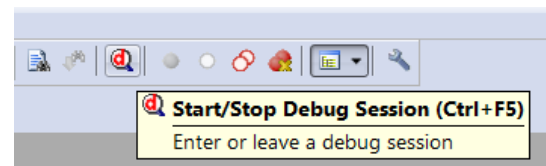
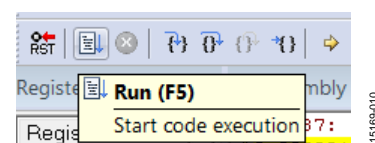

Figure 4. Download and Debug Button
Figure 5. Run (F5) Button
5. To run the example code, press **RESET** on the evaluation board or enter debug mode by clicking the **Start/Stop Debug Session (Ctrl+F5)** button (see Figure 4) and then click **Run (F5)** (see Figure 5).